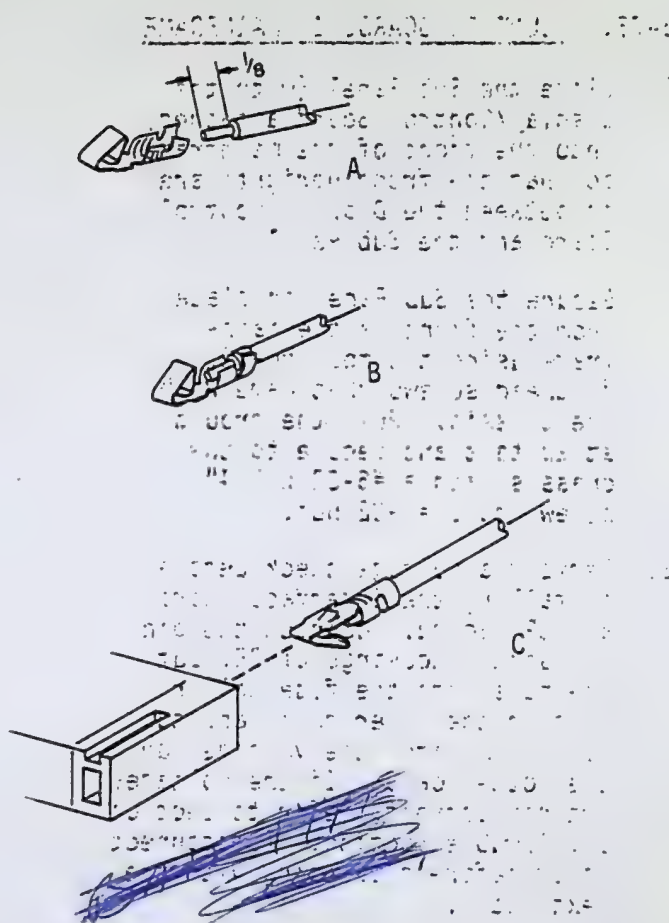

Figure 5-65. Female Connector Wiring for P3
5-76. Instructions for Female Connectors, P3 (Figure 5-65)
3. Install a connector pin (Bag 3 of D/C Interface Board) onto both ends of each wire by crimping the wire into place as shown in Figure 5-65 A and B. Then solder the exposed portion of the wire to the pin.
4. Insert the 8 pins into connector slots 3 through 10 on both connectors, as shown in Figure 5-65(C).